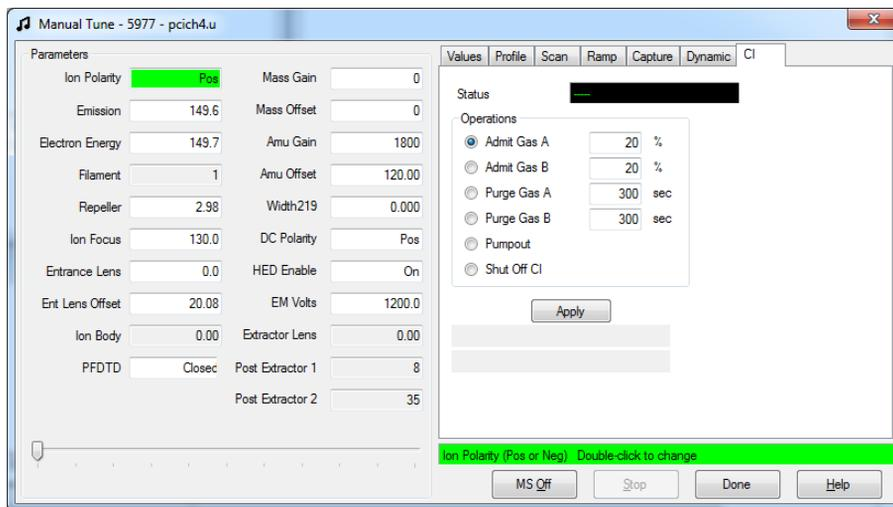

Figure 41 Manual tune CI tab
- 1 In the **Manual Tune** dialog, click the **CI Gas** tab to access the parameter settings for controlling the CI gas flow. (See Figure 41.)